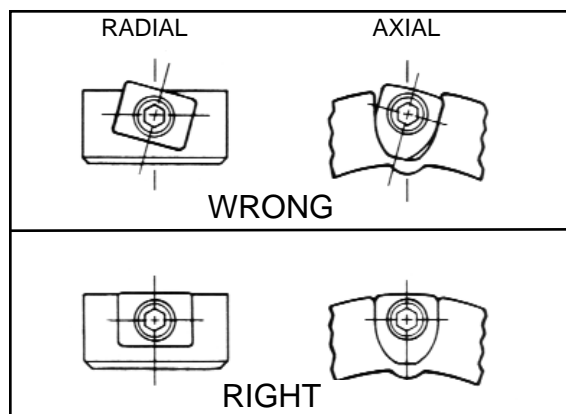

Figure 1. Correct and incorrect installation of inserts.
Step 2. Mount axial inserts on driven equipment. Inserts must be carefully aligned. See “Important Hints,” #2 and Fig. 1. Place the cylindrical hub onto the driven shaft. If there is a spline locking feature, tighten the locking screws to specified torque T2 in Table 1.
- When tightening screws, make sure that **the aluminum inserts are not twisted**. See Figure 1. To help reduce twisting, place a drop of oil or grease under the screwhead. This eliminates friction between the screwhead and the inserts. If twisted, the radial inserts will not seat properly on the hub. For sizes 30HY and 50HY, position the axial inserts with the Hytrel® element and tighten screws. If the inserts are properly installed, the Hytrel® element will move easily back and forth axially.